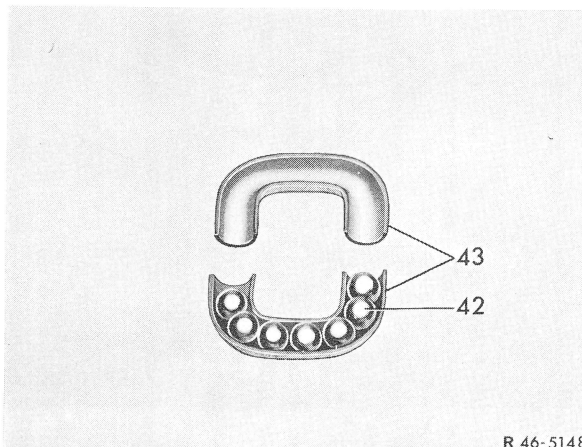

Fig. 17
18 Fill one ball guide half (43) with grease and insert remaining 7 balls (42) into this guide half. Then attach the other ball guide halves into steering nut (4). Mount fastening clip and screw-in hex. screws with serrated washers and tighten to 12–16 Nm (1.2–1.6 kpm) (Fig. 17 and 18).